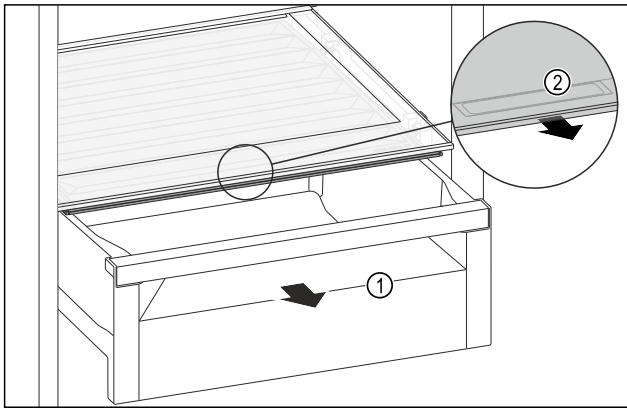

Fig. 104
- ▶ Pull out the drawer Fig. 104 (1).
- ▶ Grasp the recessed grip Fig. 104 (2) on the compartment lid and pull the compartment lid forwards at the same time.